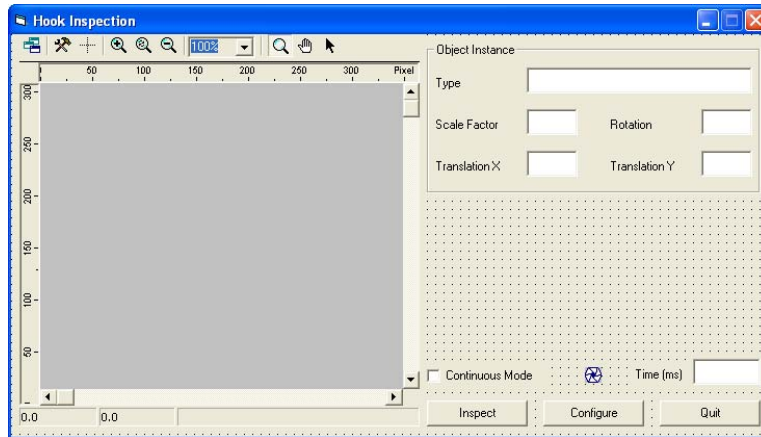

Figure 62 Visual C++ Dialog for Tutorial 2
6. The interface of the project is now complete and should look like the following dialog in Figure 62.